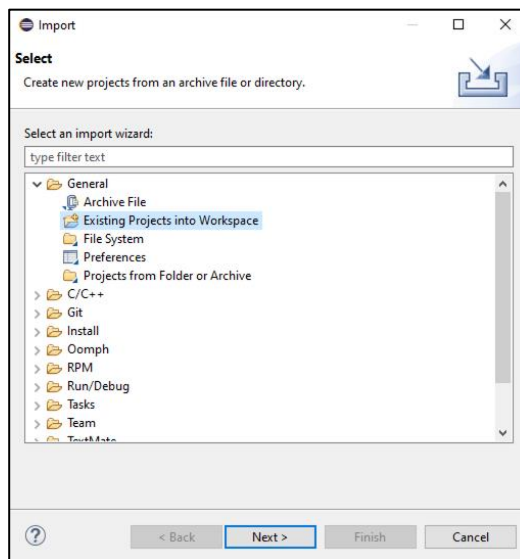

Figure 2: Import dialog box
1. Select **File-> Import** from the Menu bar. The Import dialog box appears as shown in Figure2.